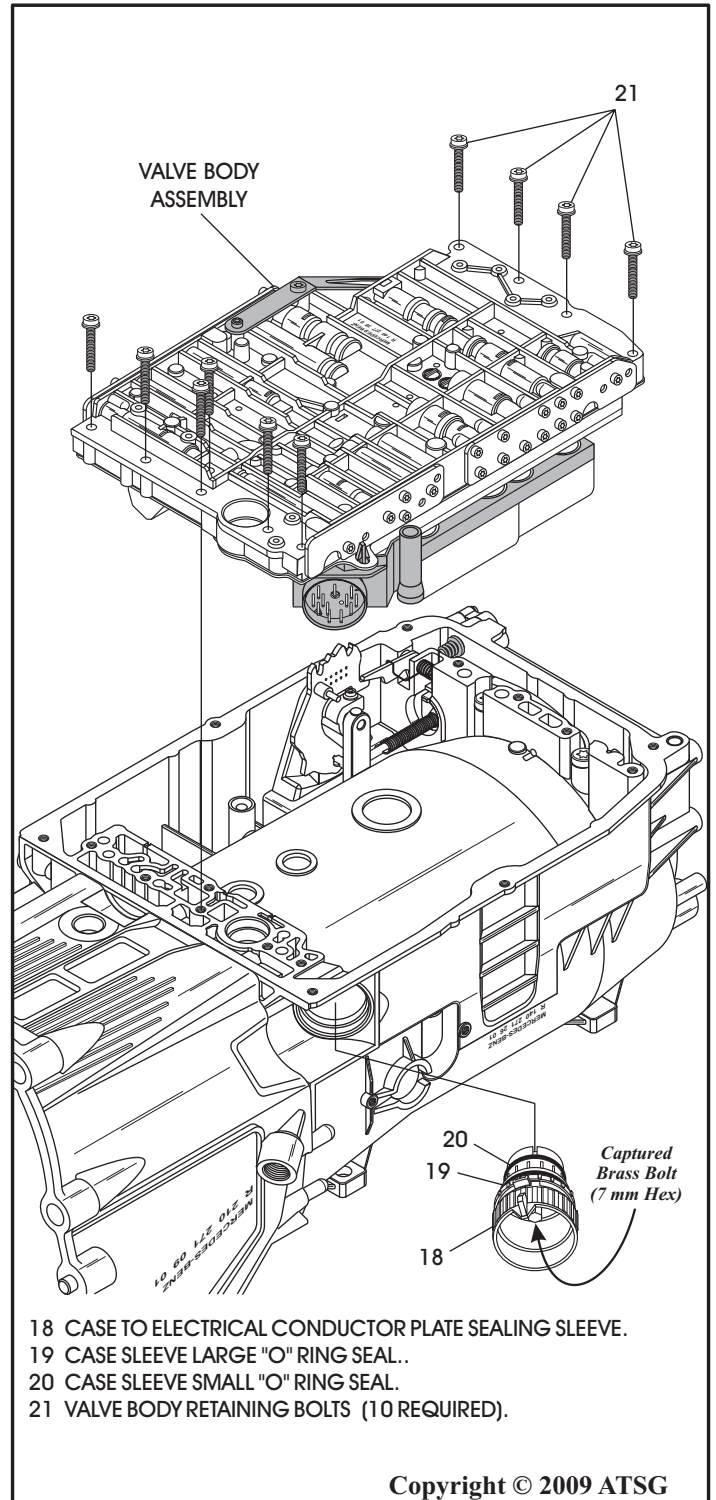

Figure 47
19. Remove the case to electrical conductor plate sealing sleeve, as shown in Figure 47.
- Note: You must remove the "captured" brass bolt in the center of the sleeve, as shown in Figure 47, using a 7 mm socket (9/32" socket will work as well).*
20. Remove and discard both the large and small "O" ring seals (See Figure 47).
21. Remove the ten valve body retaining bolts, as shown in Figure 47, using a 30 torx bit.
22. Remove the complete valve body assembly, as shown in Figure 47, by lifting straight up.